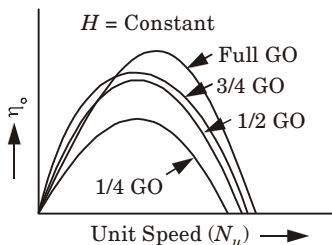

Fig. 4.36.1. Main characteristic curves for a Pelton wheel.
1. These are obtained by maintaining a constant head and a constant gate opening (GO) on the turbine.
2. Main characteristics curve for Pelton wheel and various reaction turbines are shown in Fig. 4.36.1 and Fig. 4.36.2 respectively.